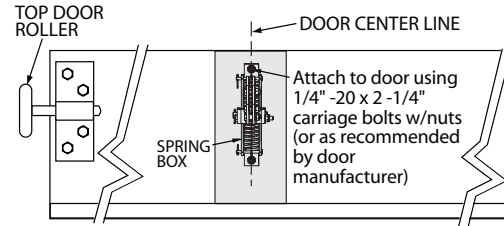

Figure 12
- 2) Position the spring box on the door as shown in **Fig. 12**, with mounting holes on the door centerline. (Even with or above top door roller).
- 2) When making adjustments, be sure to turn all 3 adjustment bolts an equal amount. Fig 12.